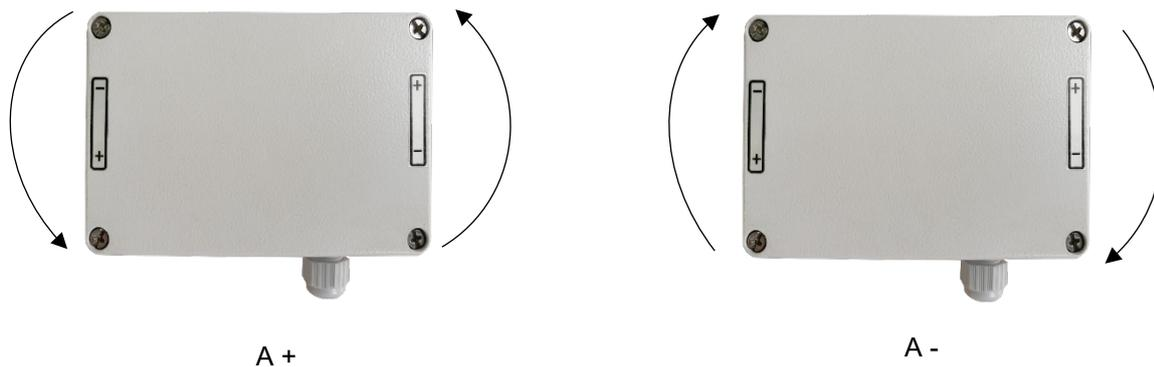

Figure 9 Sign Convention of tilt for EAN-91M tilt meter
- 3.1.3. Tilt the sensor towards +ve side (counter clockwise) on the swivel bracket provided (Figure 9), output of the sensor will increase in positive direction (+ve sign is marked on the right side of top of enclosure). Similarly, the output will decrease when sensor is tilted in - ve direction (clockwise).
Carefully orient the tilt sensor during installation. A (+) sign is on the top right side of the enclosure. If the enclosure is tilted counter clockwise then readings shows an increase (with positive sign) - Figure 9 (left). If the enclosure tilts clockwise then readings shows a decrease (with a negative sign) -Figure 9 (right).